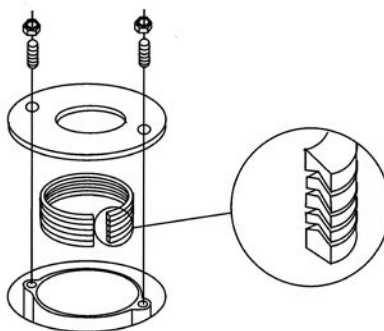

Figure 2
- 5 Install the packing and gland as shown in Figure 2. Install the packing one ring at a time.